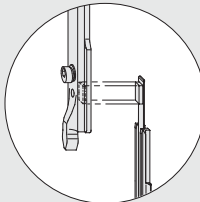

Figure 1
- > E** Install eccentric rivet (37) and locking cam (38) on S3 as shown (see page 2).
- > A** Insert slider (page 2: 35) with operating rod S4 and corner drive VSU/BSO (36) vertically on the BSO.
- B** Insert slider DK (21), stay LM 4200 (20) and operating rod S3 horizontally on the VSO.
- > C** Insert locking bolt DK (21), stay LM 4200 (20), operating rod S3 and striker plate (40) horizontally on the VSO.
- > D** Couple locking bolt DK (21) with corner drive VSU/BSO (36). Make sure positioning of the coupling piece for corner drive VSU/BSO (36) is correct.
- E** Attach stay hinge (10/16) and stay LM 4200 (20) using countersunk screw M5 x 7 (11/17) (torque 2.5 ± 0.25 Nm).
- F** Position stay hinge (10/16) according to specifications on page 4 and fasten stay LM 4200 (20) with punching screws.
- > G** Insert slider (35) with operating rod S5 and corner drive VSU/BSO (36) vertically on the VSU.
- H** Insert tilt lock 10 mm (25), operating rod S1, coupling bracket LM (29/33), operating rod S2 and corner drive VSO (23.1/23.2) vertically on the VSO.
- > I** Couple tilt lock 10 mm (25) with corner drive VSU/BSO (36). Make sure positioning of coupling piece for corner drive VSU/BSO (36) is correct (Figure 1).
- J** Couple corner drive VSO (23.1/23.2) with operating rod S3 "striking plate (40)" and secure with clamping piece EUL (22).
- K** Insert run-up block (27) horizontally on the VSU.
- L** Attach handle LM (1) with cheese head screws M5 x 12 (30) (torque 2.5 ± 0.25 Nm). Make sure the handle catch closes into the coupling bracket LM (29).
- L** Attach mishandling device LM on rebate (32) with cheese head screws M5 x 12 (31) to handle LM (1) (torque 2.5 ± 0.25 Nm). Make sure the handle catch closes into the coupling bracket LM (33).
- L** Press bottom hinge pin (4) into corner hinge (5) DIN right or DIN left.
- M** Insert clamping piece E (6) vertically on the BSU and attach corner hinge (5) using countersunk screws M5 x 8.5 (3) (torque 2.5 ± 0.25 Nm).
- N** Insert corner hinge right/left (13) into the sash groove and fasten with the pre-installed countersunk screws M5 x 8.5 (torque 2.5 ± 0.25 Nm).